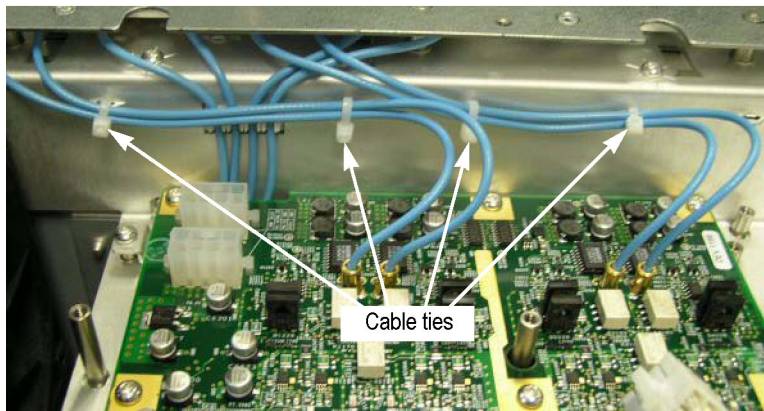

Figure 30: Location of the cable ties
3. Use a wire cutter to remove the four cable ties. (See Figure 30.)